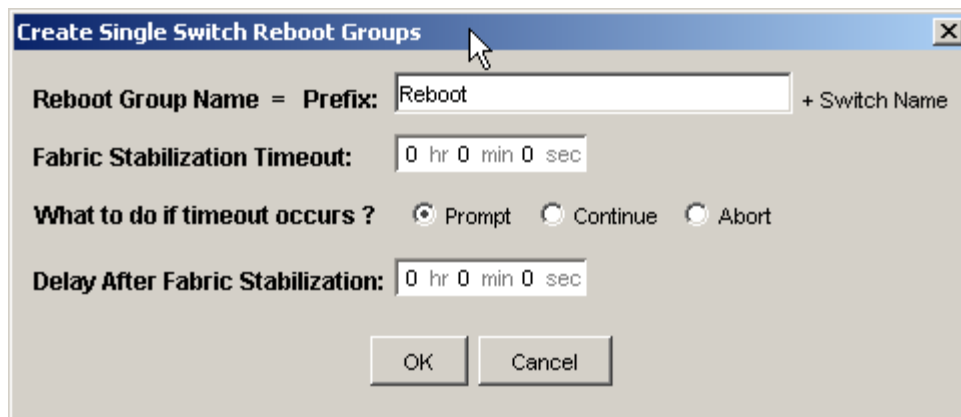

Figure 108 Create Single Switch Reboot Groups dialog box
4. Click the **Create single switch groups** button. The Create Single Switch Reboot Groups dialog box opens (see Figure 108).